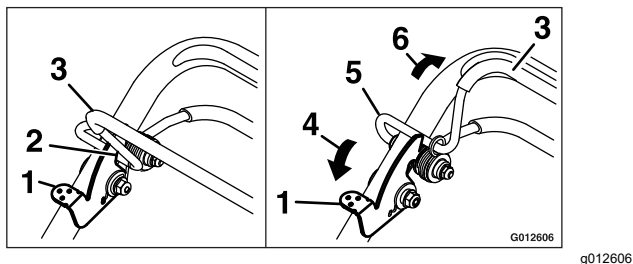

Figure 20
1. Push and hold the blade control lock lever forward to release the blade control bail (Figure 20).